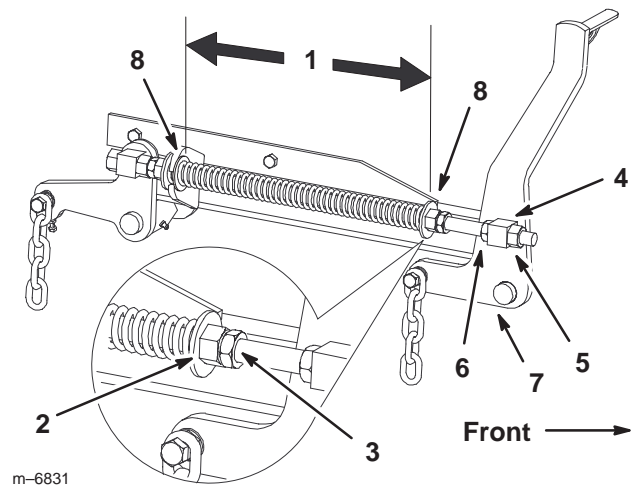

Figure 66
7. Loosen the front swivel jam nuts, at the front of the right and left swivels, approximately a 1/2 inch (13 mm) (Fig. 66).
8. Adjust the lift nuts on both the left and the right side of the machine to achieve **1/4 to 3/8 inch (6 to 10 mm) lower in front at A than in the rear at B** (Fig. 66).
2. Check the distance between the two large washers, it needs to be 10–1/2 inches (26.7 cm) (Fig. 66).
3. Adjust this distance, by loosening the spring jam nut and turning the nut in front of each spring (Fig. 66). Turning the nut clockwise will shorten the spring; counter-clockwise will lengthen the spring.
4. Lock the nut into position by tightening the spring jam nut (Fig. 66).